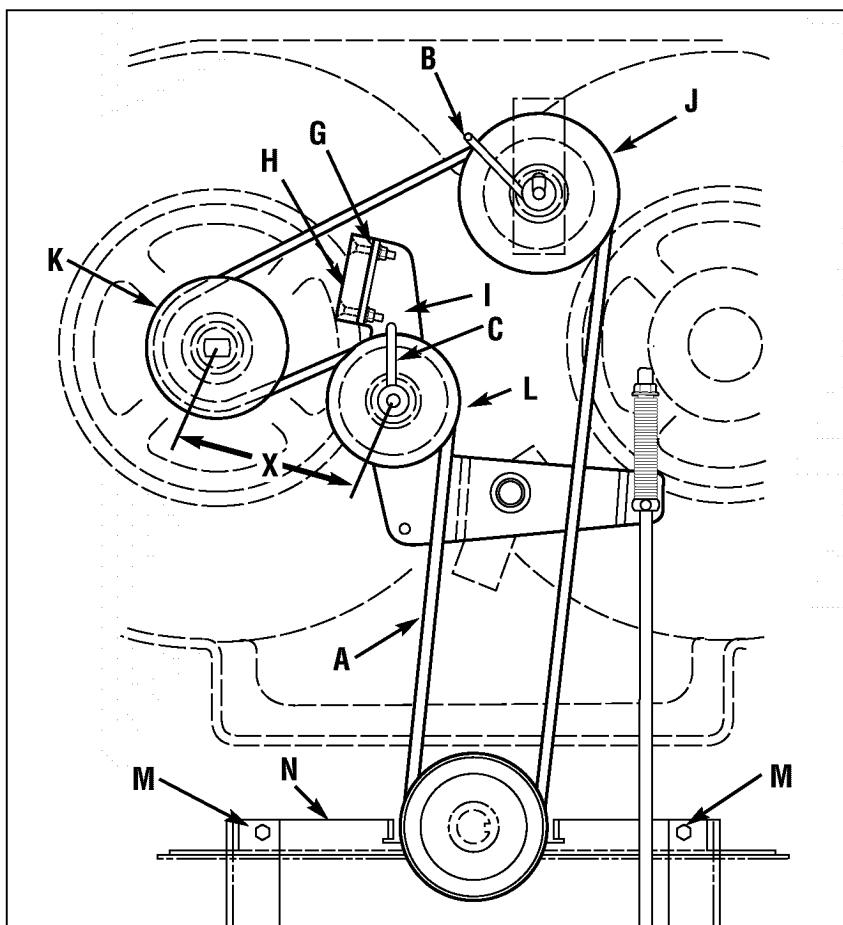

Figure 5-8: Blade drive.
4. Loosen belt guides (B and C, Figure 5-8).
5. Move flap bracket (N, Figure 5-8) out of the way by loosening two screws (M).
6. Remove belt (A, Figure 5-8) from around sheaves.
1. Route belt (A, Figure 5-8) around sheaves as shown.
3. With the Blade Drive Control lever engaged, adjust and tighten belt guide (B) to $1/32$ - $1/16$ " away from tensioned belt. (Be sure that belt does not contact belt guide when belt is under tension.) Secure belt guide (C) rotated into position as shown in Figure 5-8.
5. Re-tighten two screws (M, Figure 5-8) that secure flap bracket (N).
3. Remove hardware (G, Figure 5-8) securing blade brake (H).
4. Remove old brake (H) from idler arm (I).
8. Engage the blade drive and measure the distance (X, Figure 5-8) between the centers of pulleys (K) and (L). The distance should be 5-1/2 to 5-5/8". After obtaining the correct dimension, reinstall the belt cover securely and test the operation of the blade brake.